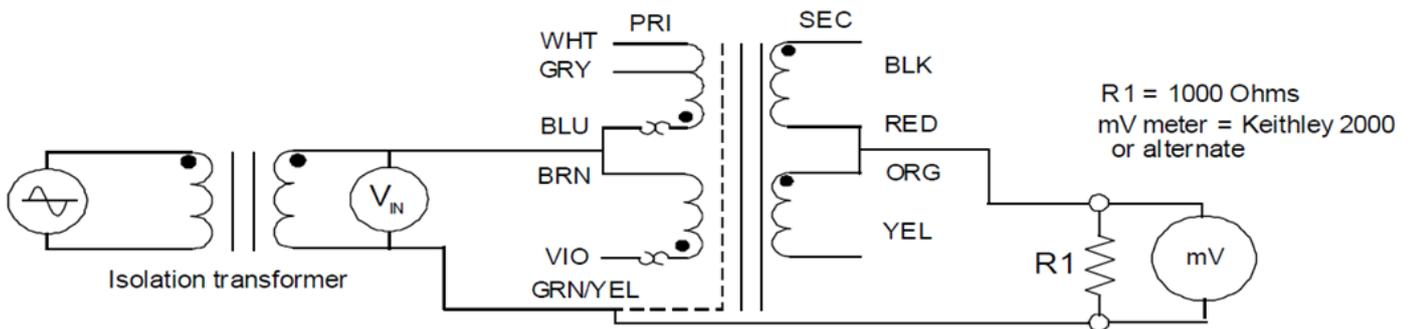
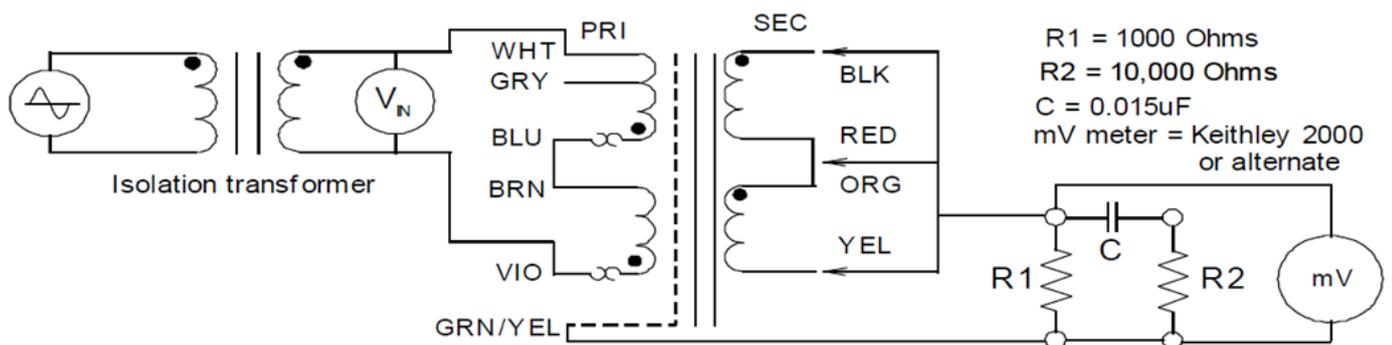

Figure 1
Figure 2
8. Earth Leakage: ≤10µA (See Fig. 1), Patient Leakage: ≤ 25µA (see Fig. 2)